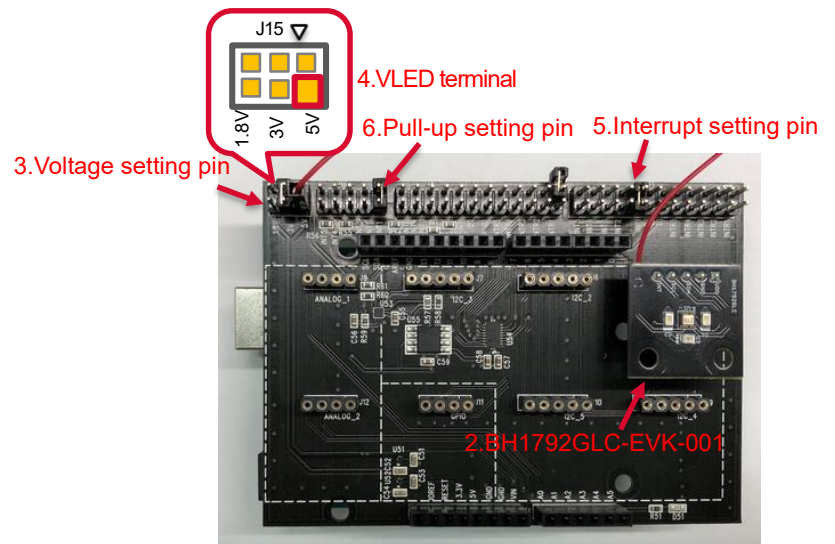

Figure 2. Connection between BH1792GLC-EVK-001 and the SensorShield
2. Connect BH1792GLC-EVK-001 to the socket of I2C area on the SensorShield (Figure 2)
3. Set Voltage of the SensorShield to 3.0V (Figure 2)
5. Set Interrupt of the SensorShield to INT1 (Figure 2)
6. Set Pull-up setting of the SensorShield to INT1(Figure 2)